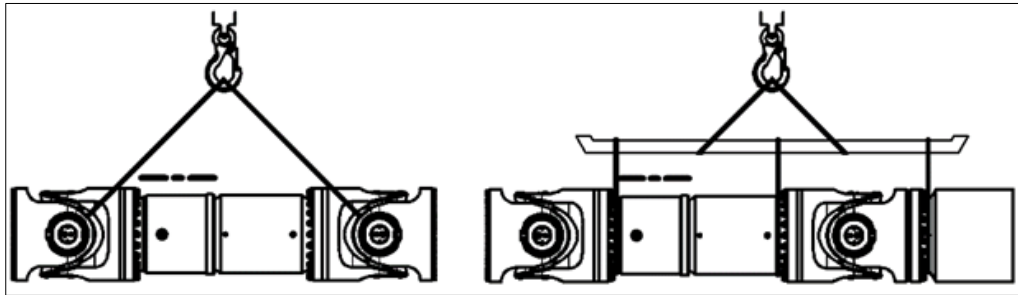

Fig. 4.1: Attaching the universal joint shaft
- ⇒ Only lift universal joint shafts at the prescribed attachment points (→ Fig 4.1).
- ⇒ Do not attach universal joint shaft in marked area (→ Fig. 4.1).
- ⇒ (see marked area) (→ Fig: 4.1 _____ . _____).